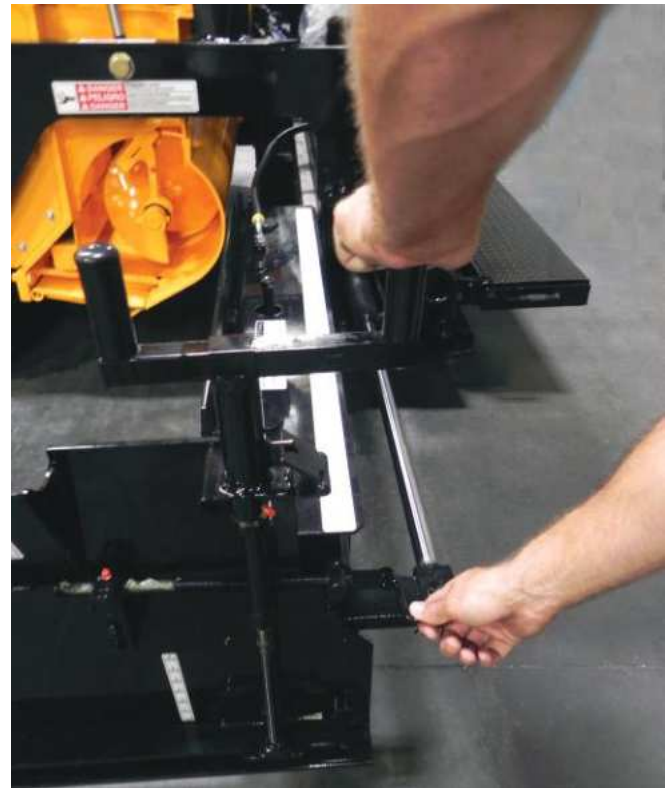

Figure 4-43. Endgate Tilt Screw Adjustment
6. Turn the tilt screw so the front of the endgate tilts down slightly when the screed is lifted. This will allow the endgate to set itself to the grade. (Figure 4-43)